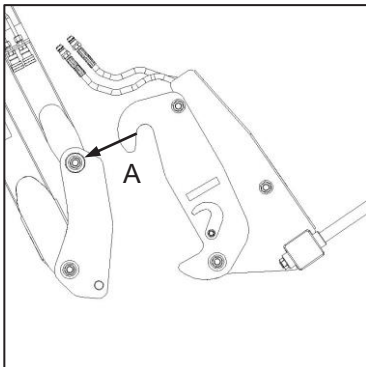

Fig. 5
- ✔ Hook the chosen attachment on to the upper support bar of the boom front mounting bracket (Fig. 5-A).
- ✔ Haak die gekose hegstuk aan die boonste steunbalk van die voorste balkmonteersteunstuk (Fig. 5-A).